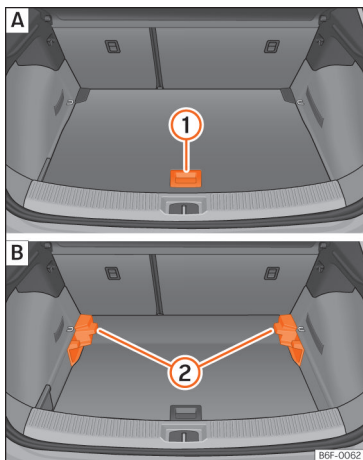

Fig. 144 Variable luggage compartment floor:
- To move from the low position to the high position, lift the floor using the handle »» Fig. 144 (1), and pull it back until the front of the floor has fully passed the supports (2).
- Move the floor forward over the supports as far as the rear seat backrest and then lower the floor with the handle (1).
- To move from the high position to the low position, lift the floor using the handle »» Fig. 144 (1), and pull it back until the front of the floor has fully passed the supports (2).
- Now let the front part fall to the floor and slide the floor forwards as far as the rear seat backrest; lower the floor at the same time with the handle (1).
- Lift the variable floor in the high position using handle »» Fig. 144 (1), pull it up and push it towards the backrest of the rear seats until it folds along the hinge line and the movable part of the floor is resting on itself.